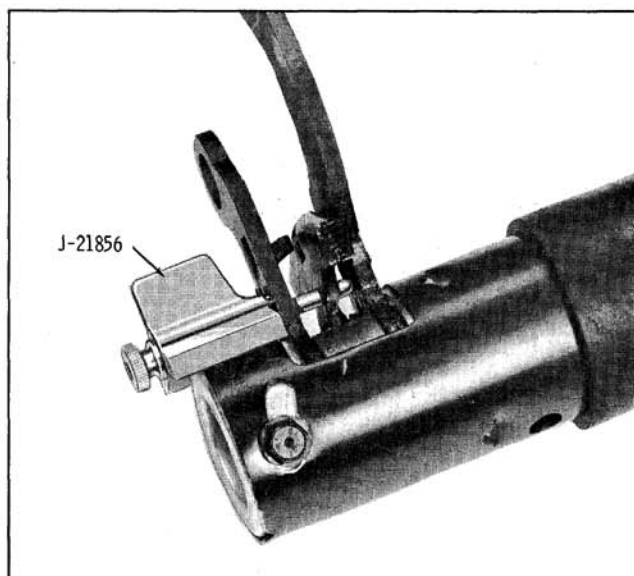

Fig. 7-31 Linkage Adjustment
3. Loosen the knurled nut on Tool J-21856 and position base of tool in the slot provided in the mast jacket so that the alignment rod enters the holes in the first and reverse lever and the interlock pawl. (Fig. 7-31) Tighten the knurled nut.